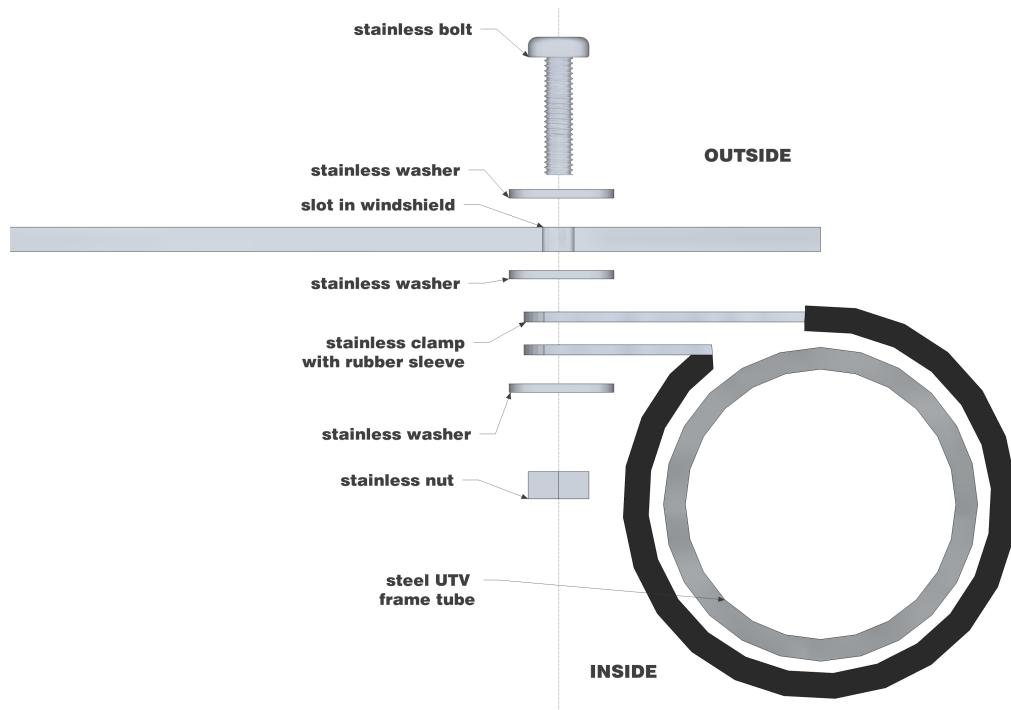

fig.2
4. Now you are ready to place the windshield on your vehicle. With help, place the windshield up on the hood. The rubber gasket should temporarily hold it up, but be careful. The bent angle at the top of the windshield should go underneath the top bar of the roll cage. Near the top slot in the top windshield, take a 1-3/4"clamp and wrap it around the roll cage tube and then run a bolt with a washer through the slot in the windshield from the outside in(see fig. 2). Then place another washer on the bolt after the slot and run the bolt through the holes in the clamp tabs. Add another washer after that and screw on a locknut and tighten until just snug. You may need a Phillips screwdriver to hold the bolt while tightening the locknut. Repeat this step at all slot locations on the windshield.